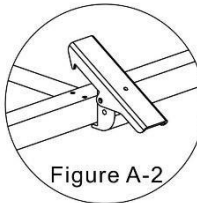

Figure A-2
3. When you want to put the treadmill to the work position, please lift the end of main frame ,then lightly tread positioning card pedal to make it upwarp (see figure A-2), card buckle left the horizontal tube of base support, at the same time pull down the frame forcibly, remove your hand after the frame with cylinder shrink down for a while. The cylinder will shrink under the weight of itself and the main fame goes flat. (see figure B).